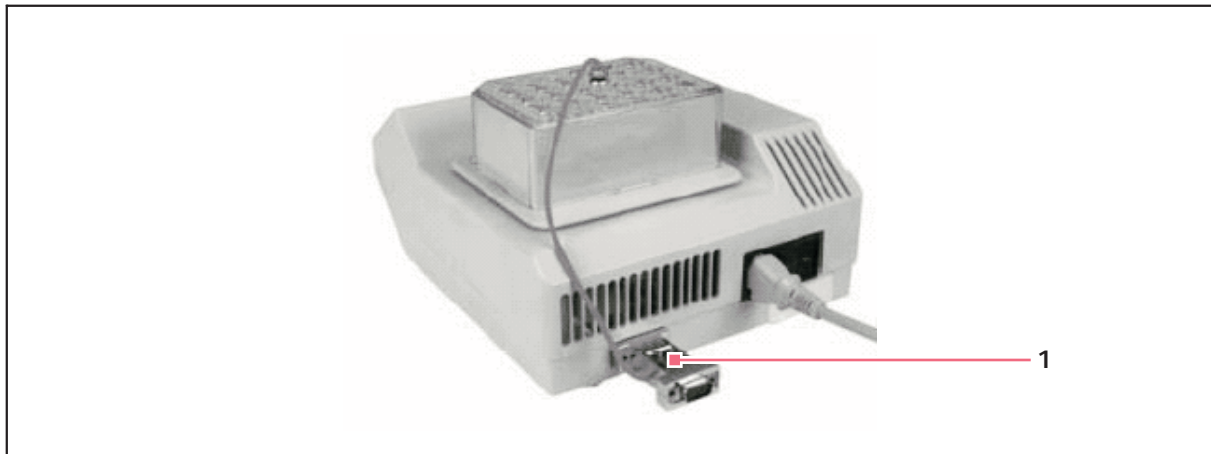

Fig. 7-3: Preparation of Thermomixer 5355 automatic temperature calibration
2. Insert the adapter for temperature adjustment directly into the Sub-D9 connection (see Fig. 7-3 on p. 44).